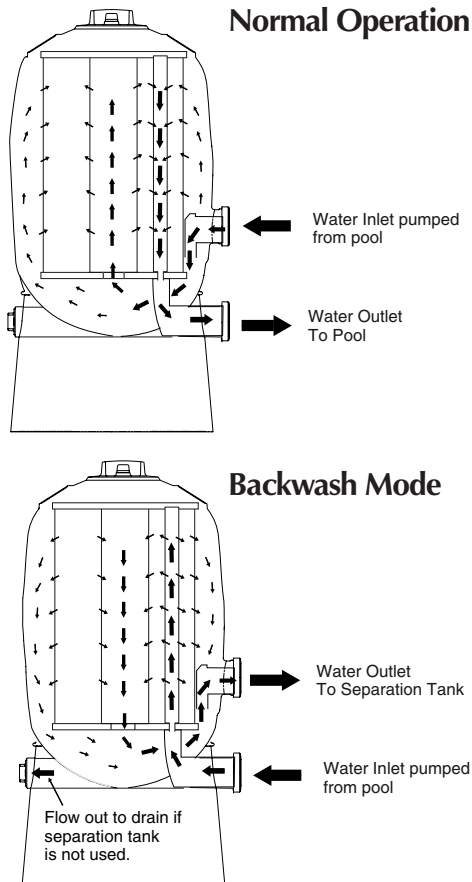

FIGURE 1B – Piping Connections
Piping (See Figure 1B for correct connections):
- For installation allowing backwashing, install Sta-Rite Two Position Slide Valve or Multiport Selector Valve with filter. See Table 3. If you intend to clean your filter according to "Module Cleaning Procedure", Page 7, no slide or multi-port valve is required. See Figure 1B, Page 4, for correct water flow when connecting pipe.